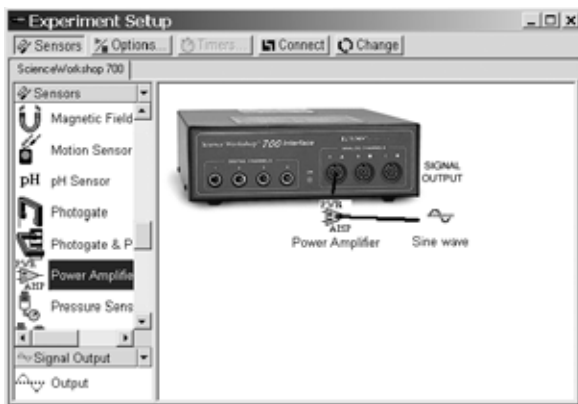

Figure 3.1
2. Switch on the Interface unit and the Computer. Open Data Studio and select *Create Experiment*. Select the Power Amplifier sensor so its icon shows under Analog Channel A in the Experiment Setup window with a sine wave signal output, as shown in Fig. 3.1. Drag the Signal Generator window to one side.